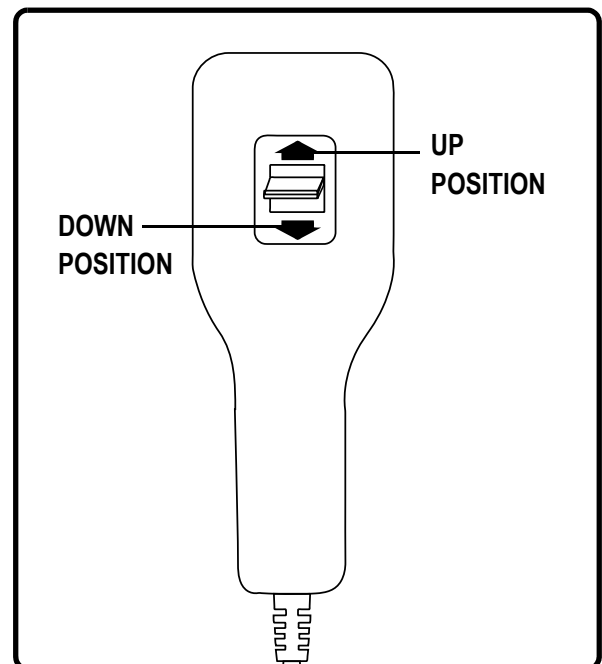

Figure 5.1 Standard Hand Control
Depending on lift chair model, the hand control may be equipped with switches that control the movement of the chair-back, chair base, and footrest, as well as the heat and massage options (Fig. 5.1, 5.2, and 5.3).
**Follow these steps to sit in your lift chair (Fig. 5.1):**
**Follow these steps to recline your lift chair from the seated position (Fig. 5.1):**
**Follow these steps to stand up from your lift chair (Fig. 5.1):**